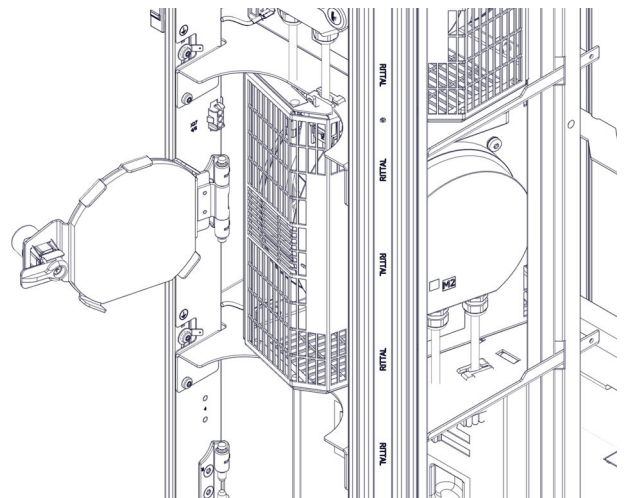

Fig. 48: Rotated fan module in fan tray
- Rotate the fan module in the rack by 90° in a counter-clockwise direction (fig. 48).